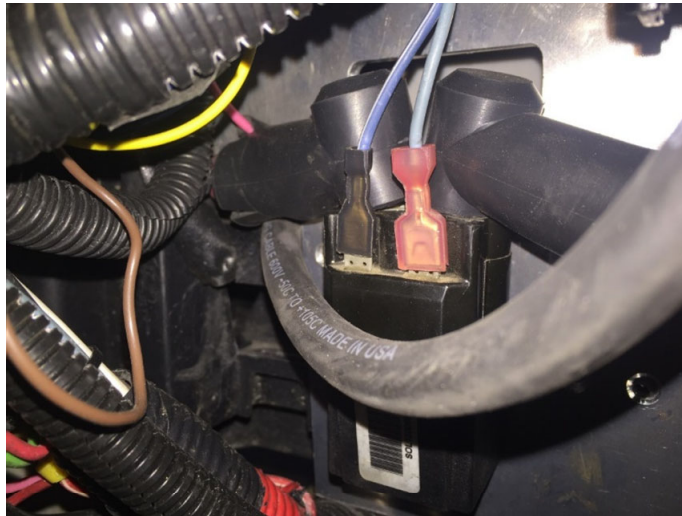

Fig. 2- Install pack positive cable onto contactor
2. Remove the electrical tape off of the pack positive cable lug install the lug onto the contactor. (Fig. 2)